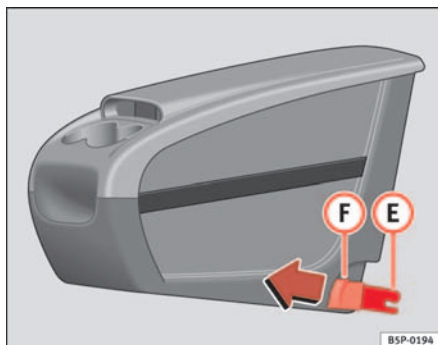
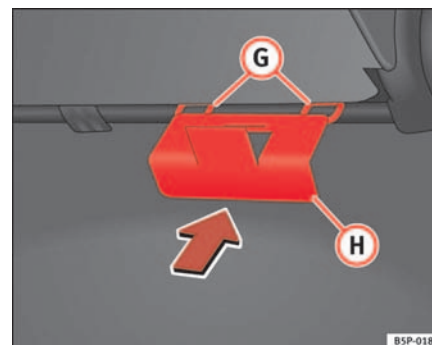

Fig. 109 Mobile stowage compartment Installation
Fig. 110 Mobile stowage compartment mounting plate
- Fit the mobile stowage compartment mounting plate ⑧ ⇒ fig. 110 from the inside of the vehicle, through the rear section of the seat. It should be fitted between the back rest and the seat, in the central seat area.
- Set both mounting pieces together (E) ⇒ page 139, fig. 109, with both mounting rings (G) ⇒ page 139, fig. 110 and press hard until both the clips completely connect with the rings.
- Pull each of the buttons ⇒ page 139, fig. 109 (F) on the clips (red buttons) forwards, until they snap out of place.